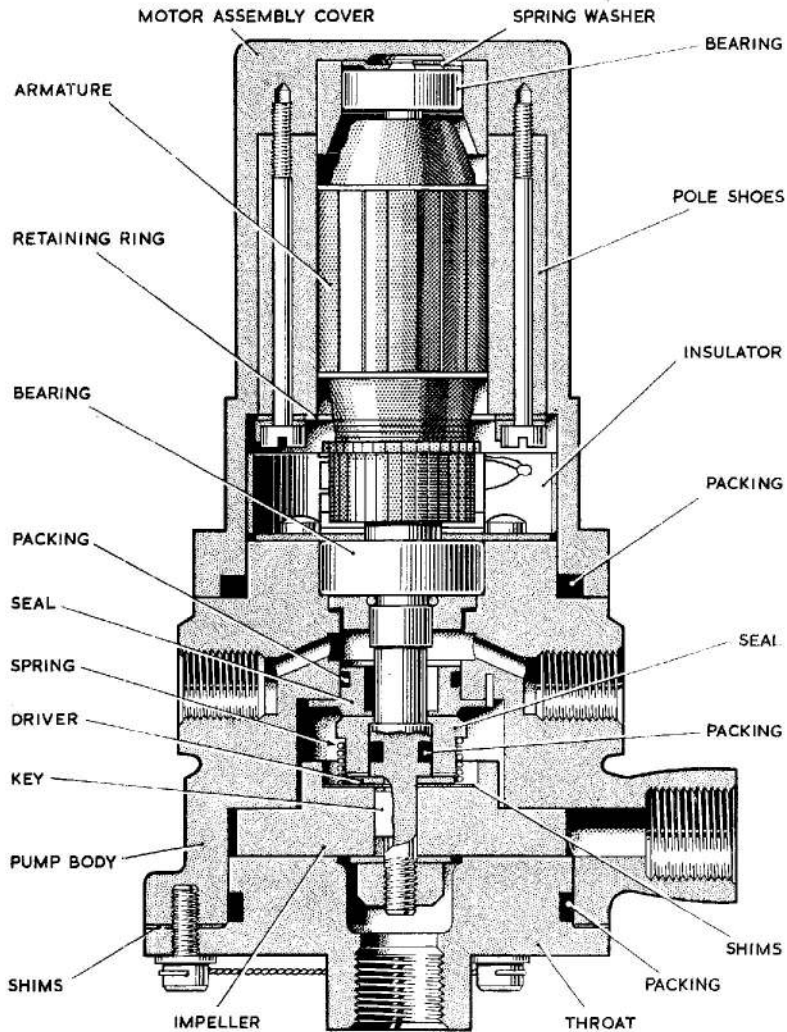

Fig. 2. Section view of pump and motor
4. The impeller is keyed on to the armature shaft and secured by a self-locking nut. Rotating and stationary seals are fitted between the impeller and the brush plate assembly (fig. 2) to prevent the ingress of fuel to the motor. A fuel drain trap is also incorporated between pump and motor which is vented to atmosphere through one of its three drain ports. The other two ports are plugged. Shims are used to centralise the impeller in the pump body to ensure it will rotate freely without fouling.